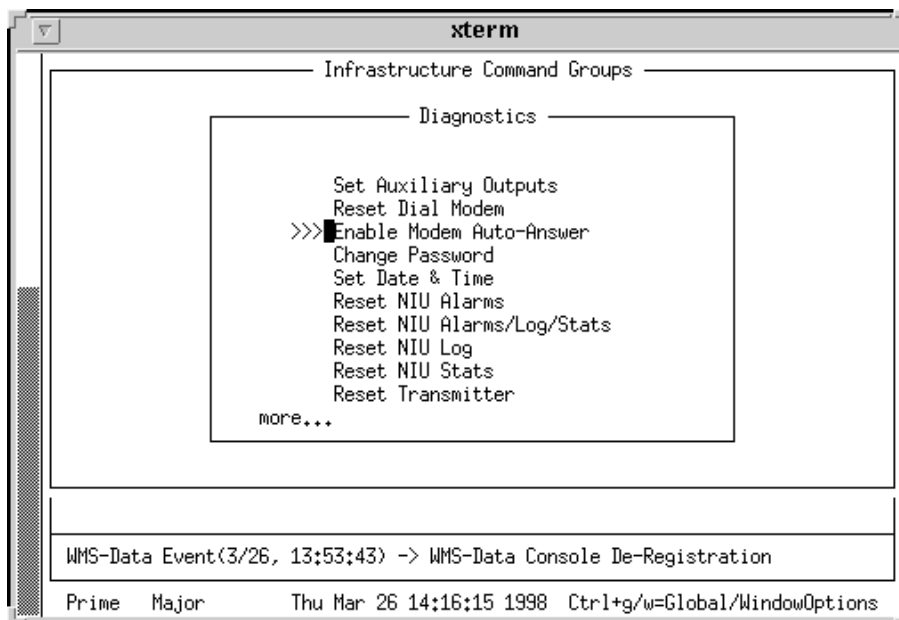

Figure 5-6: Diagnostics Screen—Enable Modem Auto Answer
1. From the Diagnostic menu, use the <tab> to position the cursor to the left of the listing Enable Modem Auto-Answer and press: <Return> (see Figure 5-6).